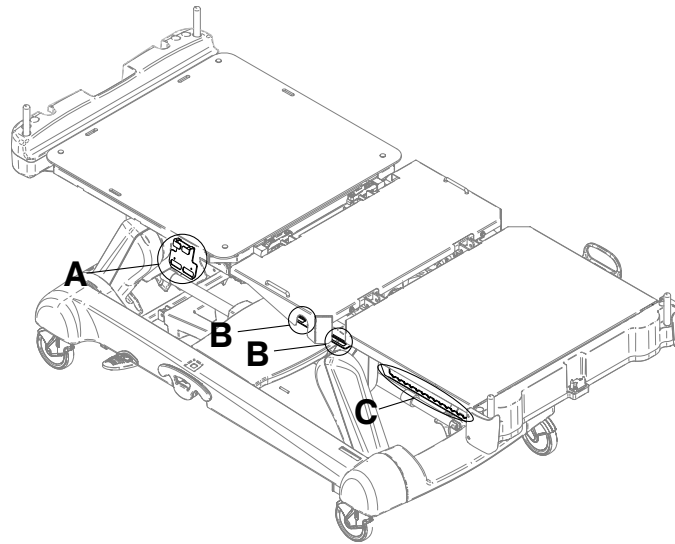

Figure 11 – Foley bag hooks
There are two isolated foley bag hooks under the seat section (B) on both sides of the product (Figure 11). If you weigh the patient with the scale system, the isolated foley bag weight is not included with the patient weight.